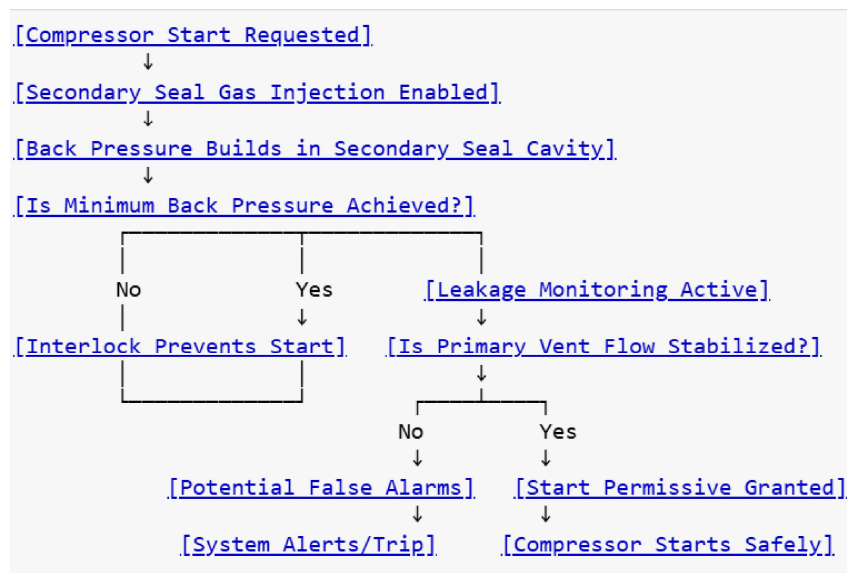

Figure.3. Conditional Flowchart: Secondary Seal Gas Impact
- Refer **Figure.3.** for flowchart of starting conditions for a gas compressor.